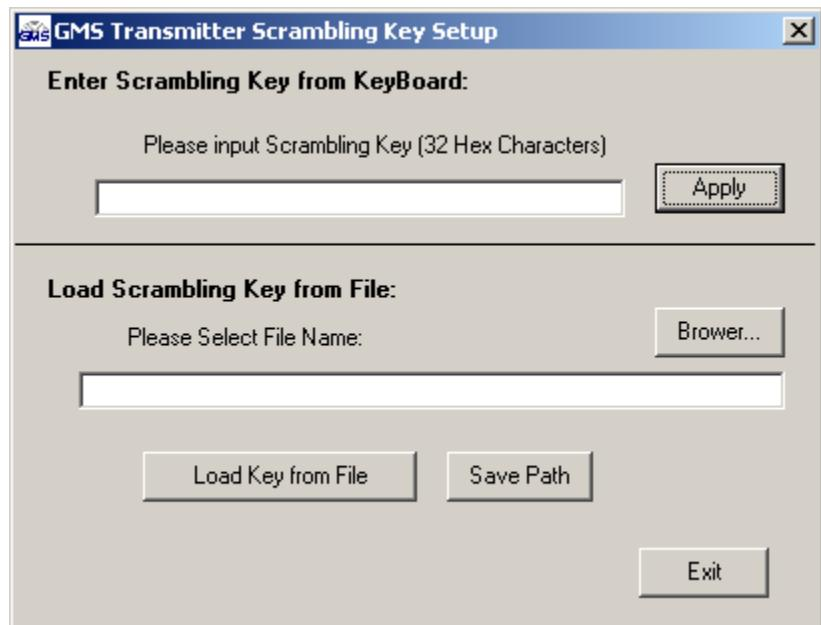

Figure 11 – Scrambling Key Set-Up
**Scrambling Key (this menu may not be available if the option has not been purchased)** – This menu displays the following (see Figure 11):